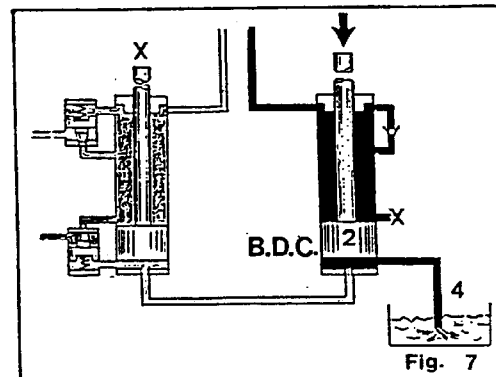

Fig. 7
- 5G (See Fig. 7 & 5) Put the S 1 in the reverse mode and retract the 2nd piston at slowest possible speed. The rocking oil will be expelled (for example) through hose 4.